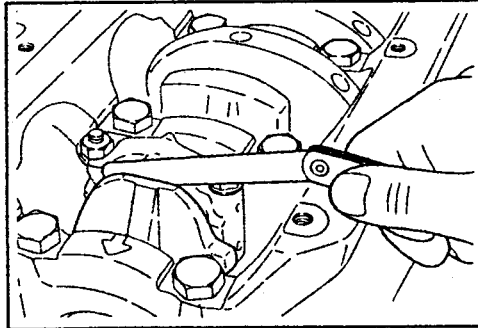

Fig. 1.43 — Measuring the end float of a connecting rod on the assembled big end bearing. Push the rod to one side and measure on the other side.
- After fitting the connecting rod, measure the end float of the big end bearing on the crankpin as shown in Fig. 1.43 by inserting a feeler gauge between the big end bearing and the thrust face of the crankpin. The nominal value is 0.10 - 0.25 mm (0.004 - 0.010 in.).